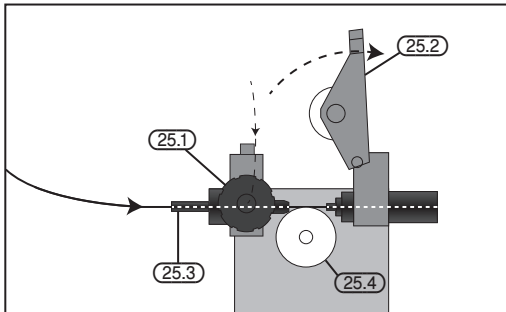

FIG. 2
7.4 INSTALLING THE FILLER WIRE (MIG WELDER) – FIGS. 2 - 6